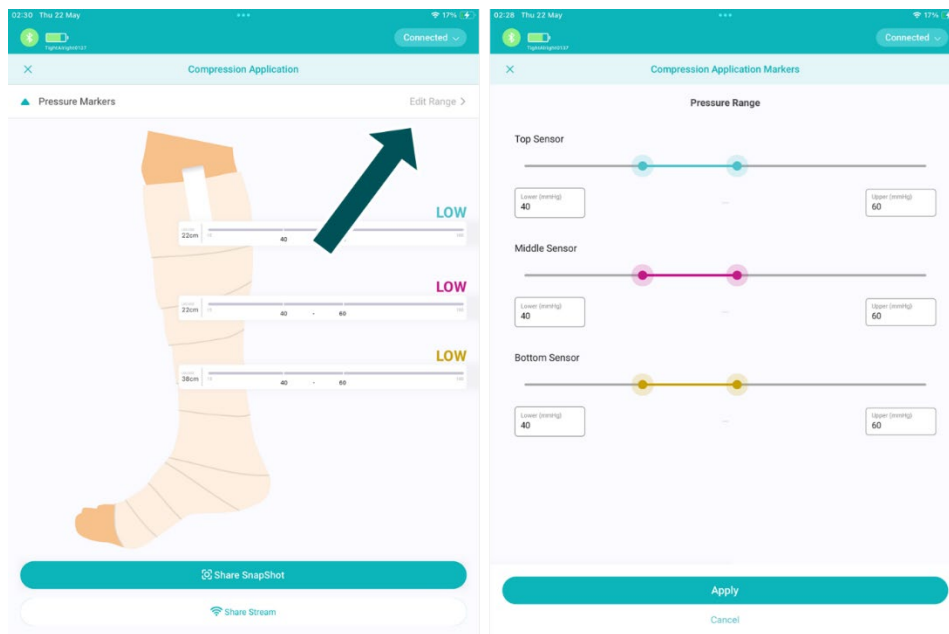

Figure 19. Pressure markers setup.
- Markers can be set by the healthcare professional by clicking **Edit Range** on the **Compression Application** screen and then setting individual ranges of interest for each of the three sensors, between 15 mmHg and 100 mmHg (Figure 19). Click **Apply**